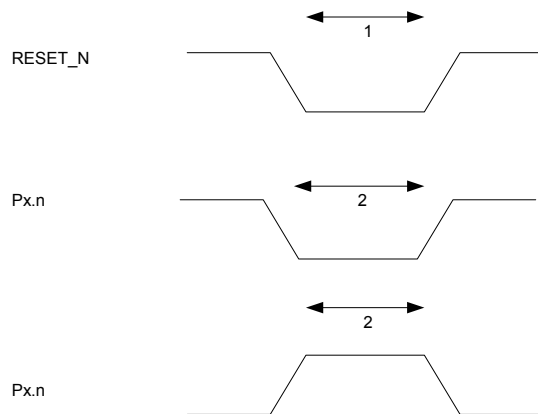

Figure 1: Control Inputs AC Characteristics
| RESET_N low width | 2.5 | | | ns | See item 1, Figure 1. This is the shortest pulse that is guaranteed to be recognized as a reset pin request. |
| Interrupt pulse width | t _{SYSCLK} | | | | See item 2, Figure 1. This is the shortest pulse that is guaranteed to be recognized as an interrupt request. In PM2/3 the internal synchronizers are bypassed so this requirement does not apply in PM2/3. |